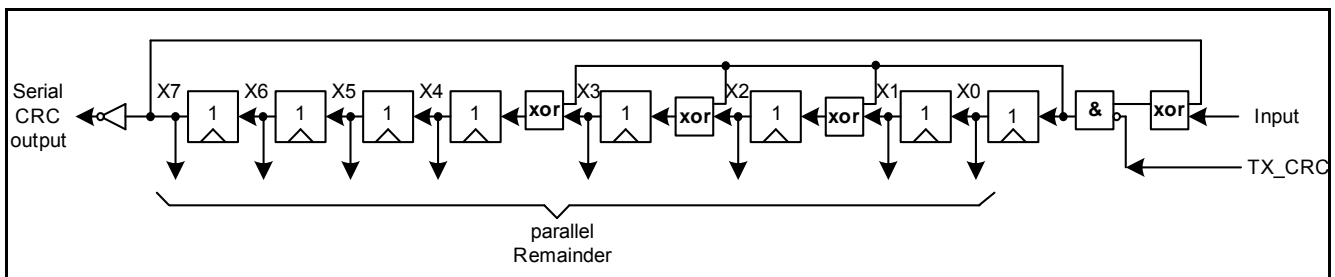

Figure 21 Fast CRC polynomial division circuit
- Generator polynomial:  $X^8+X^4+X^3+X^2+1$ , but for the CRC generation the fast CRC generation circuit is used (see Figure 21)